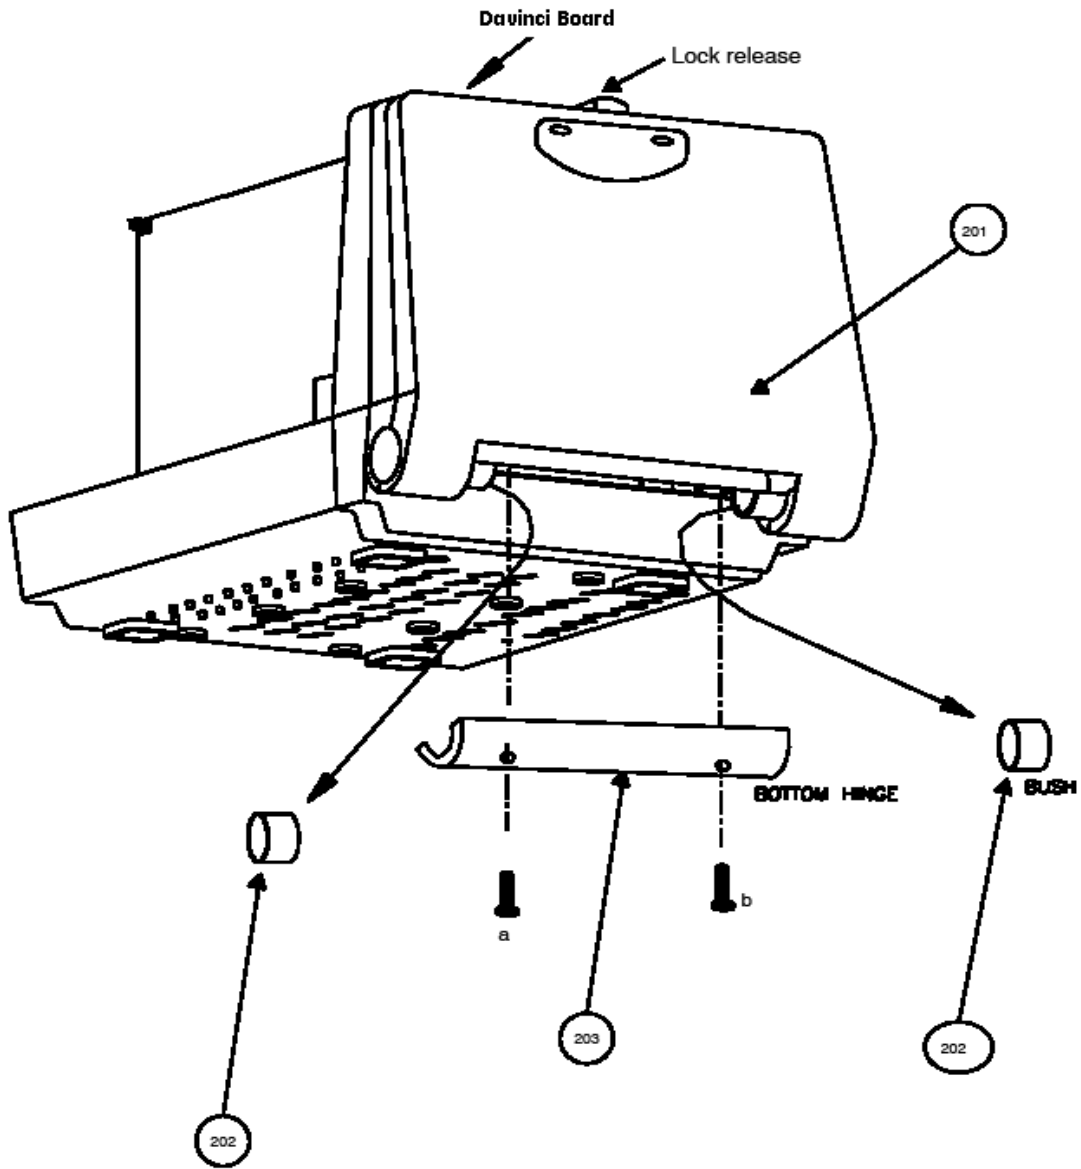

Figure 8-2 Detaching the Keyboard
Follow the steps below and refer Figure 8-2. For FRU Details refer 9-1-3
- 5.) Place a rubber mat below the unit and tilt the unit upward. Remove two screws (a,b) from the bottom hinge of the keyboard and remove the bottom hinge cover refer Figure 8-2.
- 7.) Remove the 2 ring bushes refer Figure 8-2.